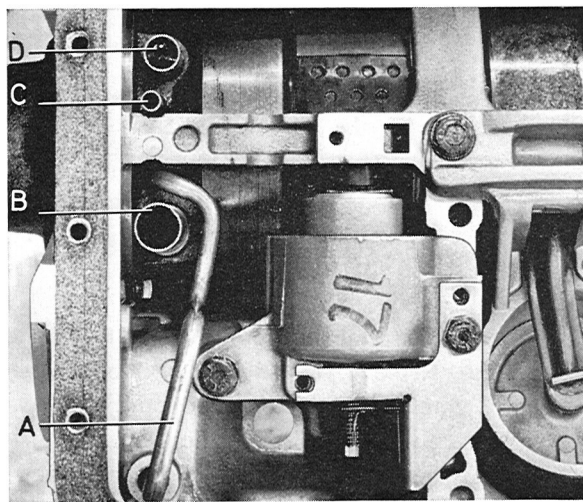

Fig. 4-125. Location of oil tubes, front of transmission
23. Install the oil tubes for the pump and converter on the pump body, see Fig. 4-125. Do not forget the O-ring for the pump inlet tube.